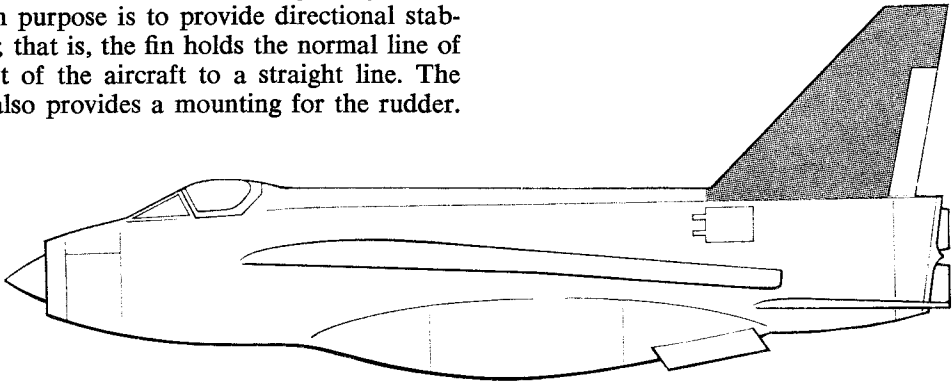

Fig 4 The fin
6. **The fin.** This is a vertical member secured to the rear end of the fuselage (Fig 4). Its main purpose is to provide directional stability; that is, the fin holds the normal line of flight of the aircraft to a straight line. The fin also provides a mounting for the rudder.